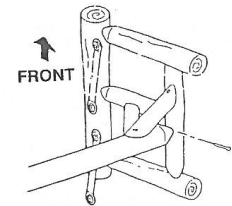

Figure 5
STEP 6 Turn glider base on it's side. Secure dowel joints in place with 2" flat head screws perpendicular to doweled end as shown in Figure 5 and 6. Repeat on other end of glider base.